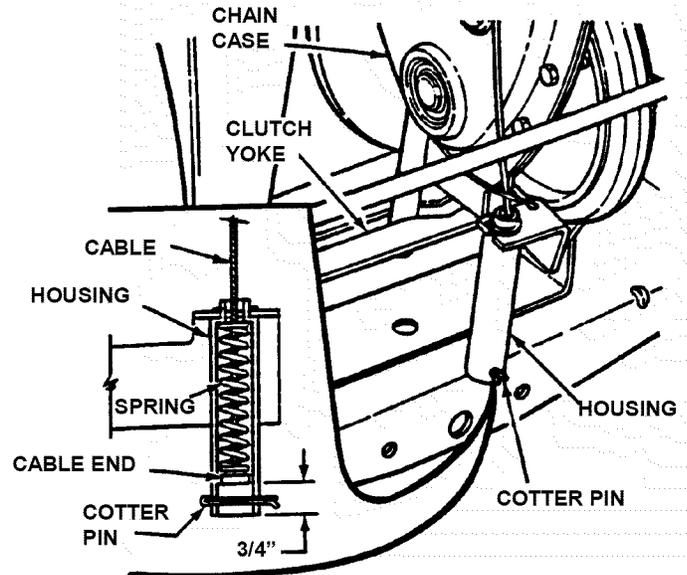

FIGURE 4.9
5. Measure the distance between end of clutch/brake cable and bottom of housing. Measurement should be 3/4". See inset of Figure 4.9.
7. Adjust cable up or down using the jam-nuts to obtain a distance 3/4" between end of clutch/brake cable (adjustment shown in inset of Figure 4.9) and bottom of housing. See Figure 4.9.